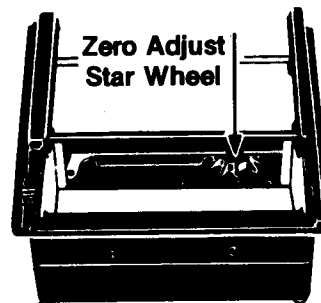

Fig. 5
- b) With strip chart roll removed from the chart well, the zero adjust star wheel is located in the bottom of chart well (see fig. 5).